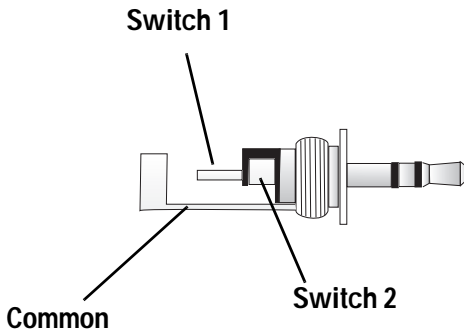

Figure 5-5: Internal Appearance of Headphone Jack
1. For each switch, solder one wire to the ground and one to the relevant part of the headphone jack shown in Figure 5-5 on page 17.